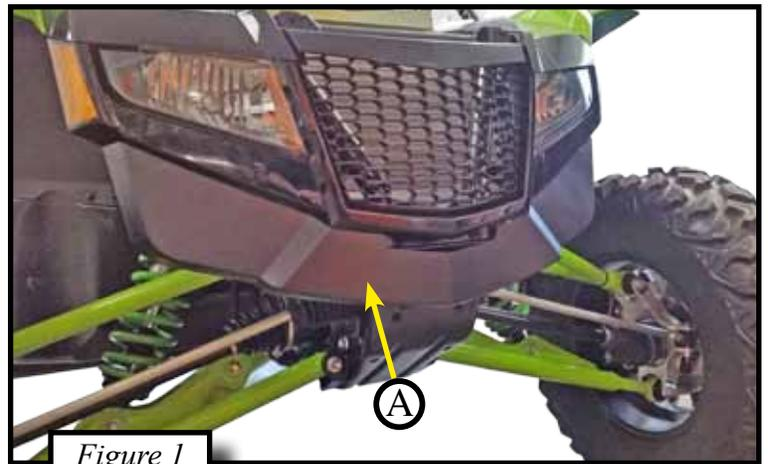

Figure 1
1. Remove the front plastic fascia (A) from your machine shown in Figures 1 & 2. Set plastic and hardware aside for later.
- Reinstall front plastic fascia (A) from Step 1 Figures 1 & 2